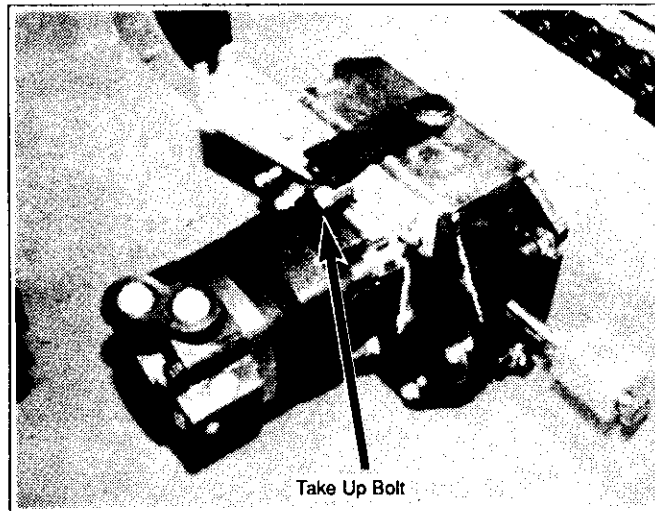

Figure 6-4
14. Before connecting brake cable adjust 3/4 inch take-up bolt. Tighten bolt against brake pads and disc until tight, then loosen 1/4 to 1/2 turn and secure jam nut. (See figure 6-4)